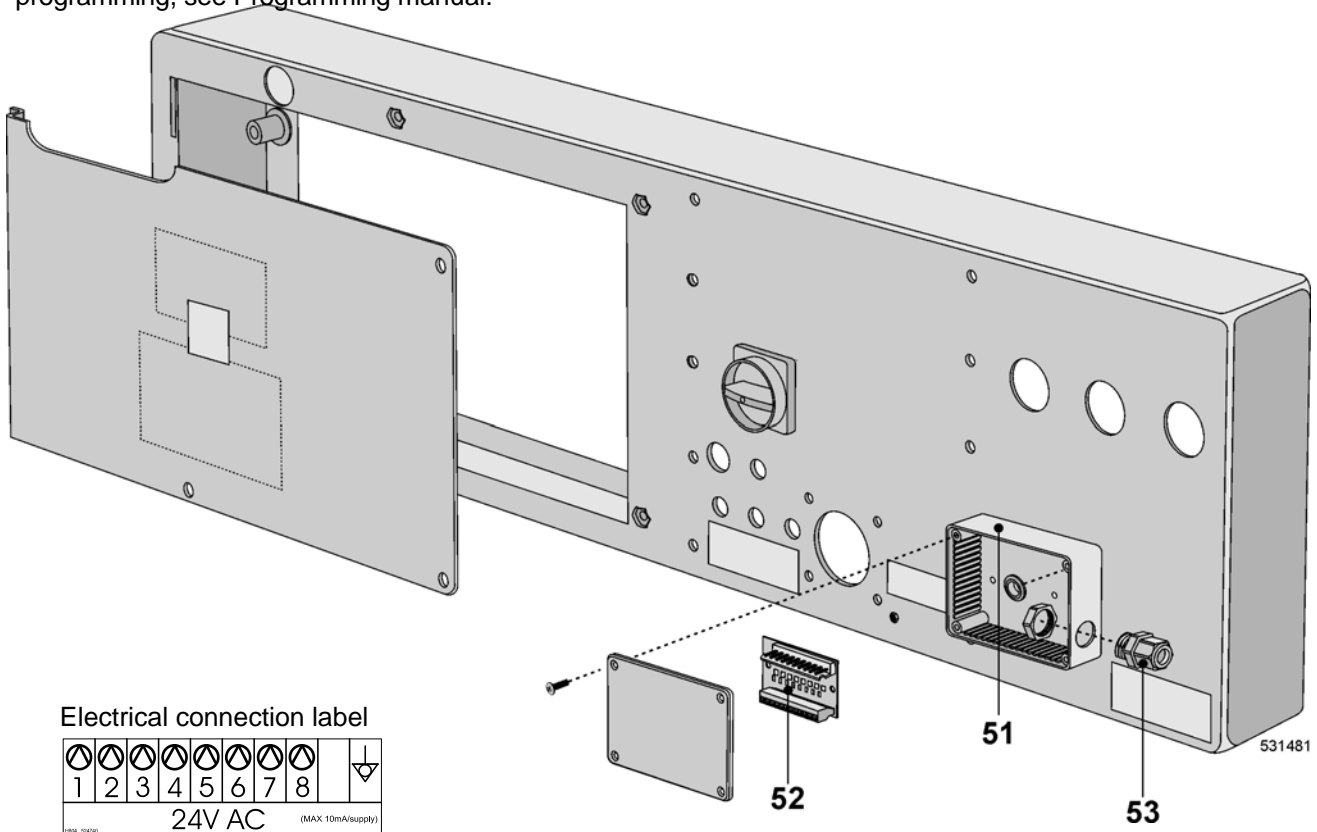

Fig.4.4.G Rear panel 22-33-40-55 kg / 50-80-100-125 lb
For electric connection of supply control signals a plastic box is available on the back side of the machine (see fig.4.4.G., pos.51) with the terminal box with LED signalization of activation of the respective pump, (pos.52). Under the terminal box there is a label for electric connection, fig.4.4.G. Detail connection of signals could be also found on the electric scheme of the machine. Signals for supply pumps control are 24V AC. Maximum current for control circuits of pumps must be limited to 10mA. Lead the cable for connection of pumps control signals through the plastic cable bushing, position 53. After connection of conductors to the respective positions of the connector „P“ (screw clamps), fix up the cable by tightening the cable bushing against disconnection and close the box with the cover. For details about liquid soap supply system programming, see Programming manual.